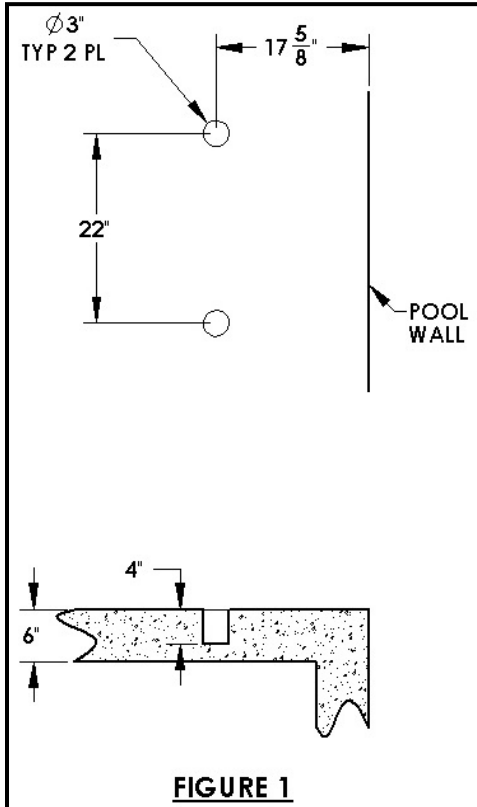

FIGURE 1
- 1) Locate the two (2) wedge anchors.
- 2) Using the holes in the anchor jig plate as a template, mark the two hole locations with a marking pen on the pool deck. Verify that the **CENTER LINE** of the anchors are no more than 17-5/8 inches from the pools edge. **See FIGURE 1.**